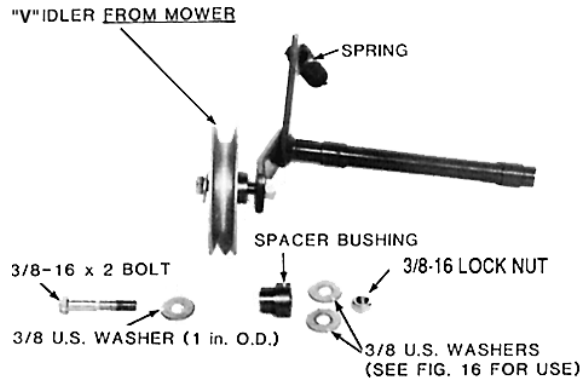

Figure 7
3. Slide a 3/8" washer, V-idler pulley, spacer bushing (with the smaller end toward the pulley), and (2) 3/8" washers onto a 3/8"–16 x 2" bolt (Fig. 7).
4. Slide the bolt into the hole in the end of the lower bracket of the mid-mount idler shaft and secure it with a 3/8"–16 locknut (Fig. 7).
5. Hook the idler spring through the hole in the upper bracket of the mid-mount idler shaft (Fig. 7).